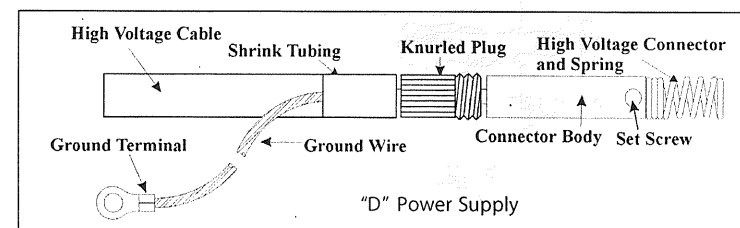
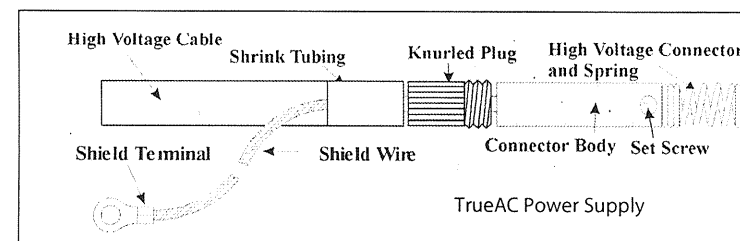

Figure 13
Figure 14
1. Determine the location for mounting the neutralizing bar and power supply. Refer to Figure 13 (see Figure 14 for TrueAC cable connections) for correct cable assembly. Some cable assemblies have SLCC high voltage connector preinstalled.
The equipment you have ordered may be supplied with a spring-loaded connector installed. If so, keep these instructions for use when ordering a replacement connector. If the spring-loaded connector is not installed, follow the instructions below, using Figure 13 as a guide.